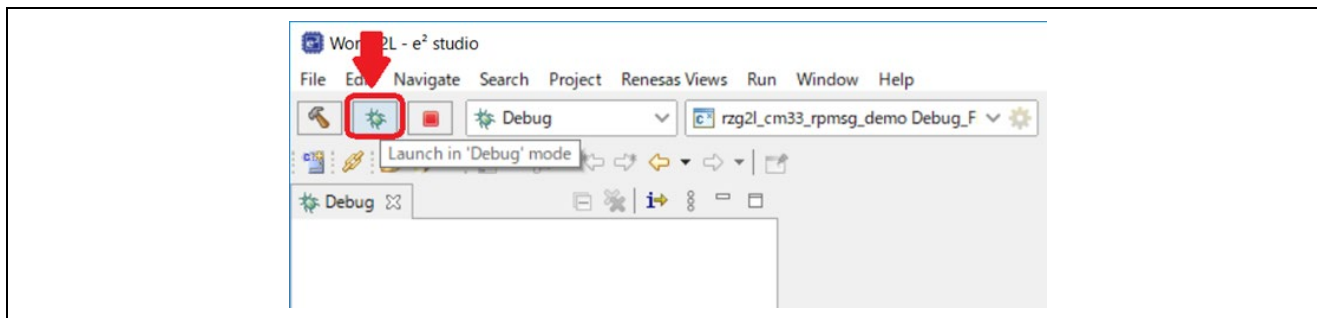

Figure 4-5. Debug Function Launch
2. Click the debug button indicated by a red arrow in Figure 4-5.